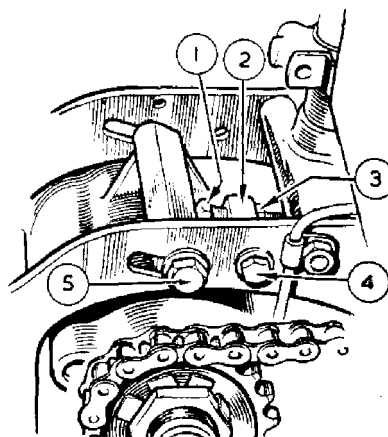

FIG. 92
**Front chain adjustment.** The general arrangement for adjusting the chain is shown in Fig. 92.